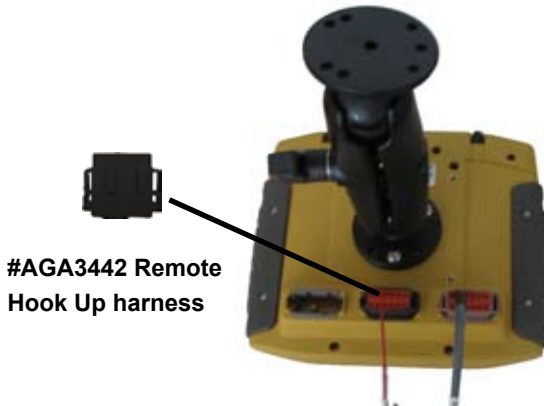

Figure 6-8. Fit Remote Hook Up Harness (#AGA3442) to Color Coded Connection Port
1. Connect the Remote Hook Up harness (#AGA3442) to the center port (figure 6-8). This harness allows Guidance mapping to be remotely activated